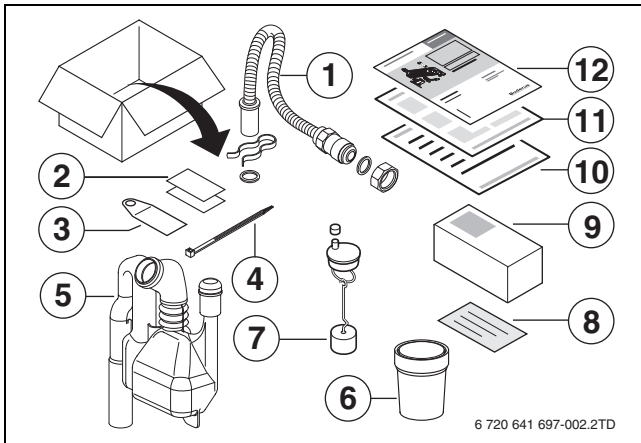
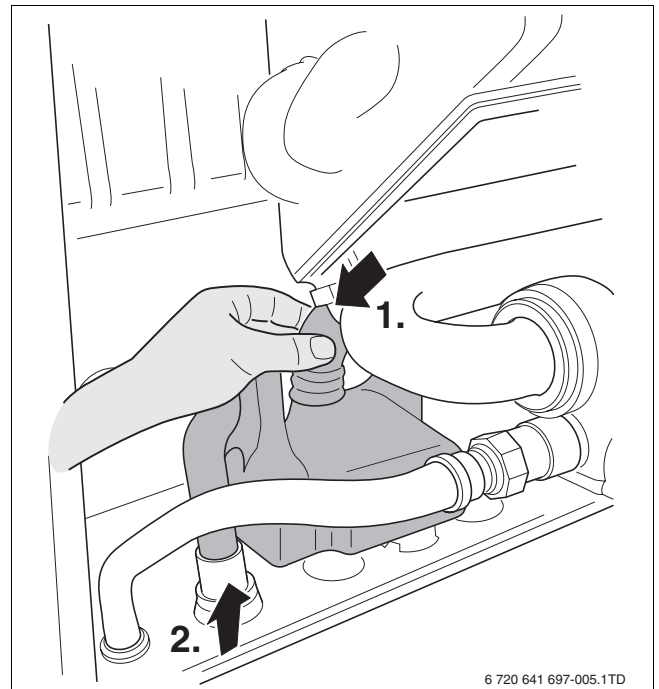

fig. 1 Service kit with air vent
fig. 6 Removing the condensate trap
- ▶ Remove the gas supply pipe according to figures 6 to 11 of the gas supply pipe instructions (→ fig. 1, [11]).
- ▶ Fill out the gas label (→ fig. 1, [2]).
- ▶ Place the gas label on the tag (→ fig. 1, [3]) and connect it with the tie wrap (→ fig. 1, [4]) to the old gas supply pipe.